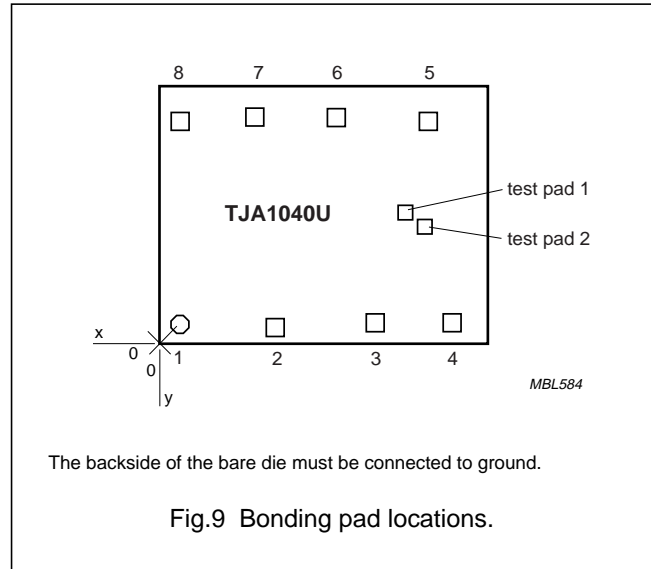

Fig.9 Bonding pad locations.
1. All x/y coordinates represent the position of the centre of each pad (in μm) with respect to the left hand bottom corner of the top aluminium layer (see Fig.9).